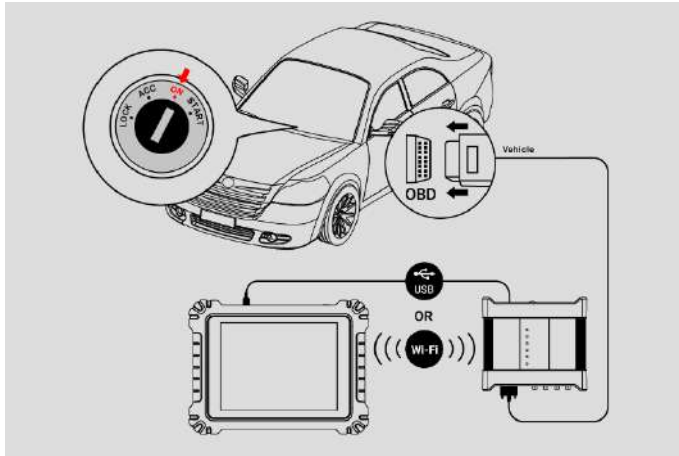

Figure 9-118 Connection Diagram
1. Please refer to Figure 9-118 Connection Diagram to complete the connection. Place the ignition in the key on position.